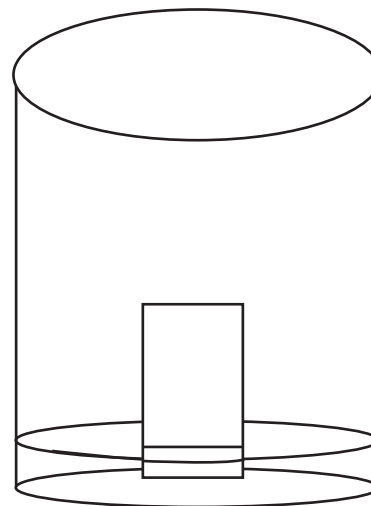

Figure 2
- When all drops are on the plate and have been dried, put on lab gloves. Place the plate in the solvent jar so that it is standing vertically, leaning against the side of the jar with the pencil line at the bottom as shown in figure 2. Cap the jar tightly. The level of solvent should be about halfway between the bottom of the plate and the horizontal line.